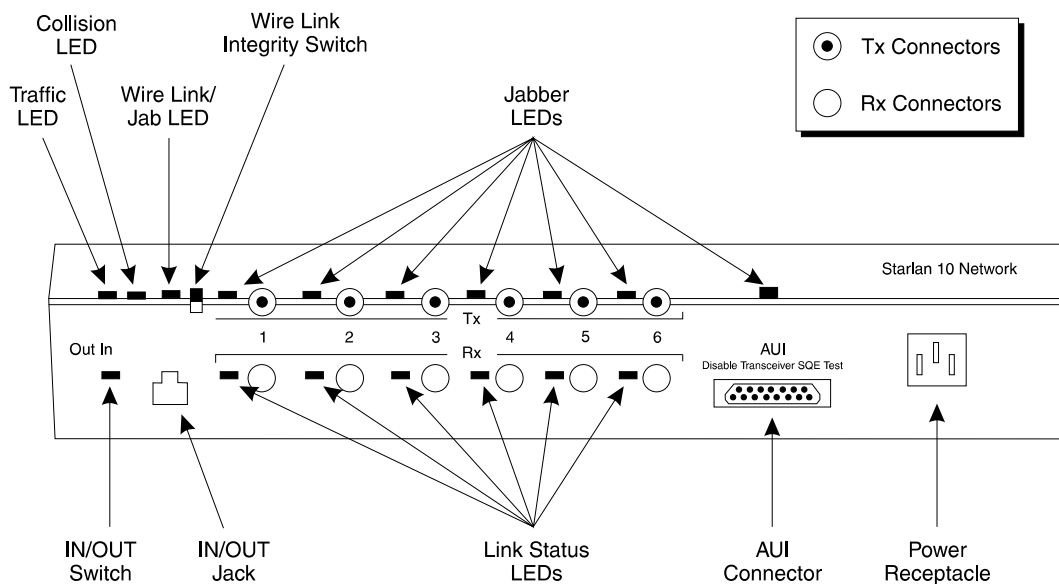

Figure 3-19: StarLAN 10 Network Fiber Hub Unit
To connect the StarLAN 10 Network Fiber Hub unit to the network, do the following (see Figure 3-19):
3. Plug one end of the fiber optic cable into the transmit (Tx) and receive (Rx) connectors on the front of the network fiber hub unit (see Figure 3-19).